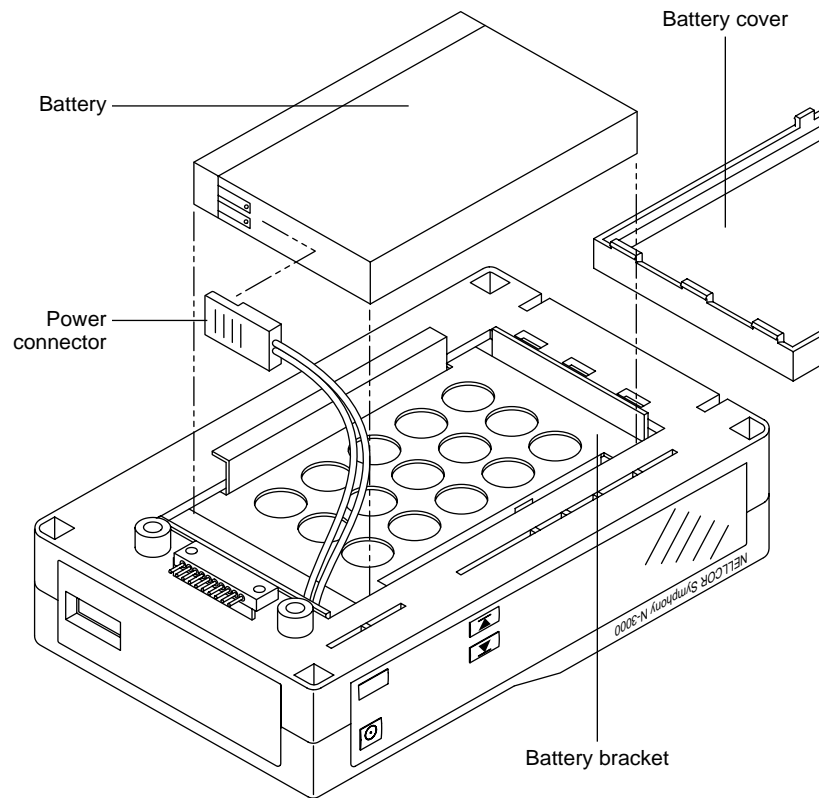

Figure 3-5: Speaker Test
6. Lift the battery out of the compartment, as shown in Figure 3-5. It may be necessary to use the edge of a flat tip screwdriver to gently pry the battery loose.